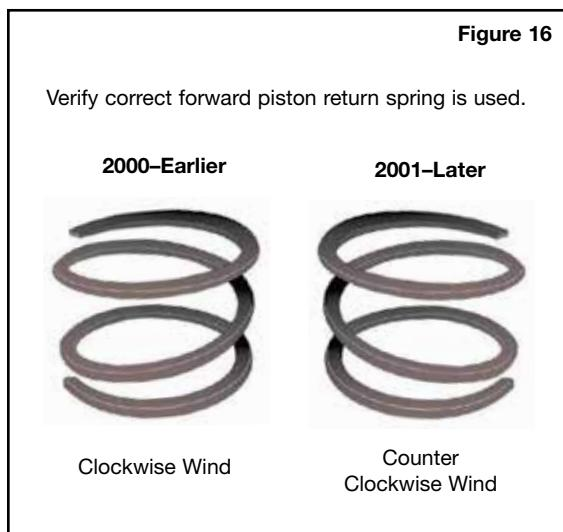

Figure 16
- Verify correct forward piston return spring for the application you are working on (**Figure 16**).